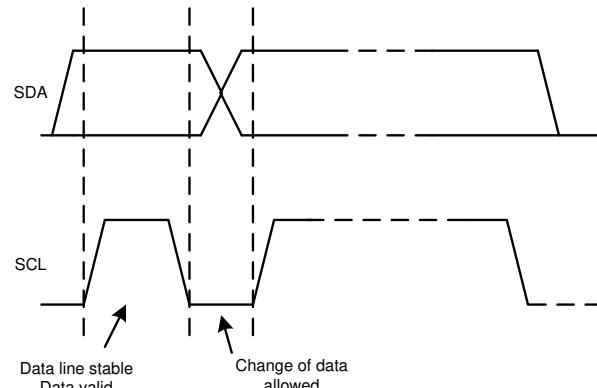

图 7-16. Bit Transfer on the I²C Bus
2. The controller then generates the SCL pulses, and transmits the 7-bit address and the read/write direction bit (R/W) on the SDA line. During all transmissions, the controller makes sure that data are valid. A valid data condition requires the SDA line to be stable during the entire high period of the clock pulse, as shown in 图 7-16. All devices recognize the address sent by the controller and compare the address to the respective internal fixed address. Only the target device with a matching address generates an acknowledge by pulling the SDA line low during the entire high period of the 9th SCL cycle, as shown in 图 7-14. When the controller detects this acknowledge, the communication link with a target has been established.